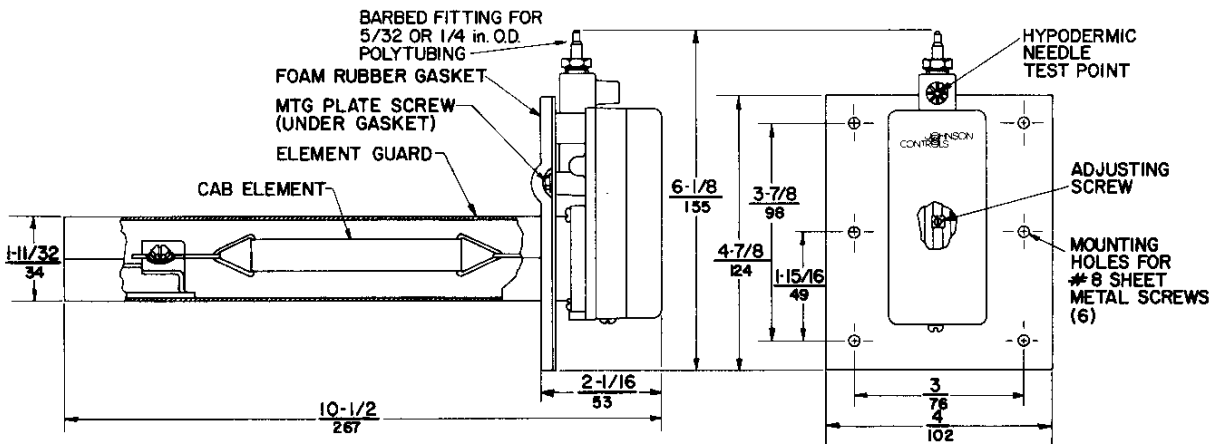

Fig. 3: Dimensions $\frac{\text{in.}}{\text{mm}}$
To mount the H-5210 on a duct, cut a 2-3/8 to 2-1/2 in (60 to 64 mm) diameter hole in the duct. Insert the element through the hole and position the transmitter so that the element guard and mounting plate screw concealed under the gasket (see Fig. 3) do not contact the duct.
3. Turn the adjusting screw (see Fig. 3) to the proper output pressure from Step 2. **Note:** Be careful not to move the slider while turning the adjusting screw.